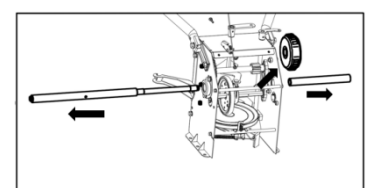

Figure 25
3. Pull out long and short drive shafts,remove the differential. See Figure 25.